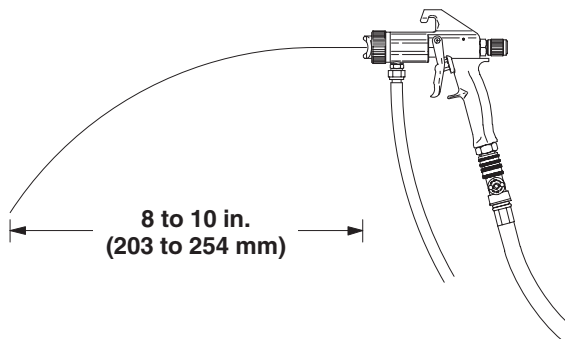

Fig. 7 8071A
2. For remote pressure pot, hold gun parallel to floor and adjust fluid pressure at 8 to 10 inch (203 to 254 mm) fluid stream. See Fig. 7.